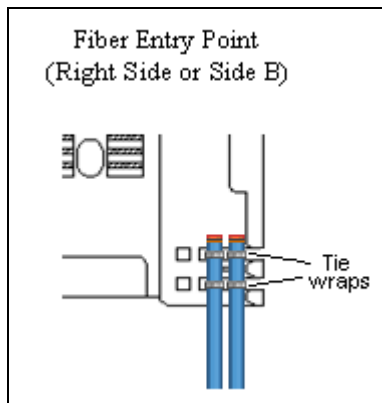

FIGURE 2M1-8. Splice Tray with two 5mm BOF tubes.
- g. Insert the tip of the tie wrap into the tie wrap buckle and clinch the tie wrap down around the 5mm BOF tube and the splice tray until snug. Cut off the excess tie wrap. See FIGURE 2M1-8.
Step 14 - Attaching the 5mm BOF tube to the left most position on Side B of the splice tray (see FIGURE 2M1-5). This is the location for the attaching a third 5mm BOF tube to a splice tray.